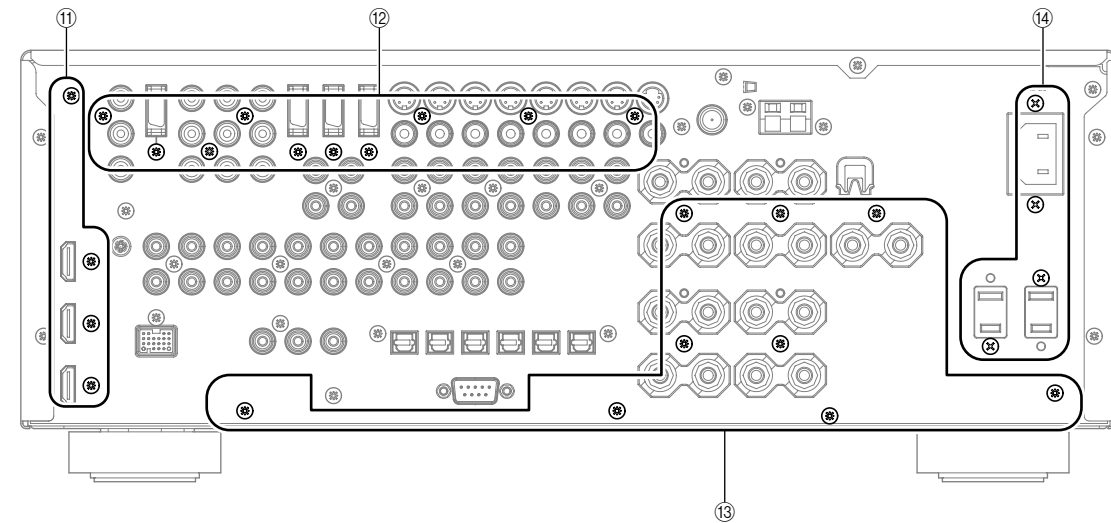

Fig. 5
- Remove 4 screws (⑪). (Fig. 5)
- Remove 6 screws (⑫). (Fig. 5)
- ⑪のネジ4本を外します。(Fig. 5)
- ⑫のネジ10本を外します。(Fig. 5)
- Remove 11 (U, C, T, A, B, G, E models) / 13 (R, L models) screws (13) and 4 (U, C, R, T, A, B, G, E, L models) / 2 (K model) screws (14). (Fig. 5)
- ⑬のネジ9本、⑭のネジ4本を外します。(Fig. 5)